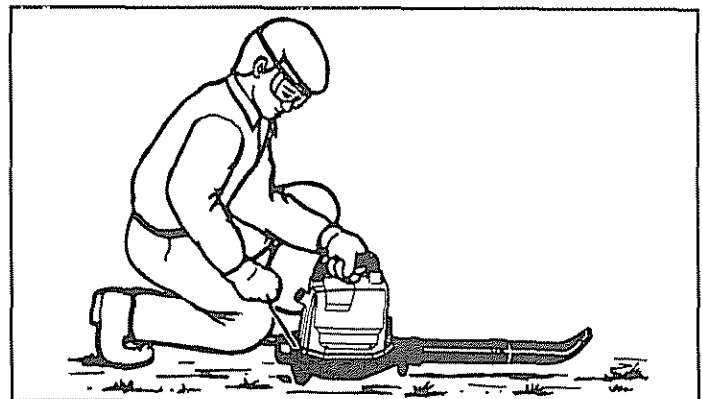

Figure 3
- Hold unit in the starting position shown in Figure 3. Make sure blower nozzle is directed away from people, animals, glass, and solid objects.
When starting engine, hold the unit as shown in Figure 3. Do not set the unit on any surface except a clean, hard area while starting or running the engine. Debris such as gravel, sand, dust, grass, etc., could be picked up by the air intake and thrown out through the discharge opening, damaging the unit or property, or causing serious injury to bystanders or the operator.